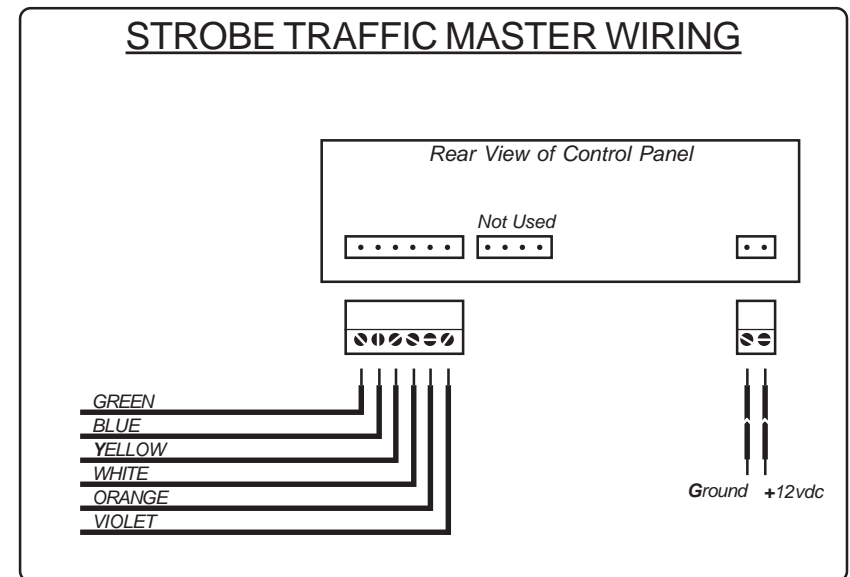

Figure 8 (Rear View of Control Module)
- 2) Insert the wires from the 9 wire harness into the appropriate location in the 6 pin and 2 pin sockets as illustrated in figure 8.